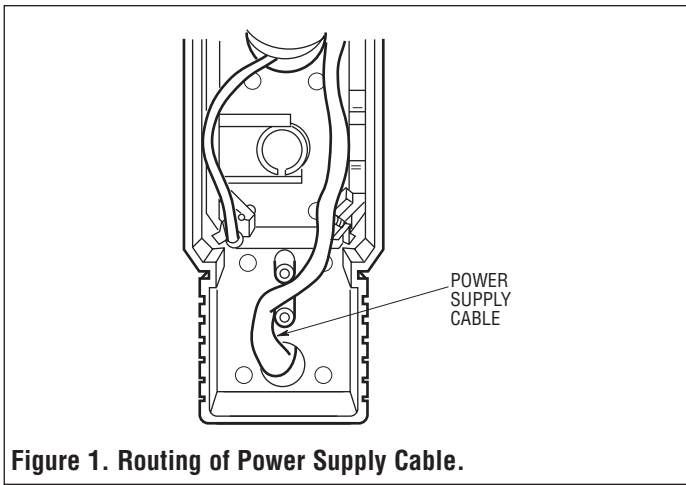

Figure 1. Routing of Power Supply Cable.
2. Remove accessory section cover by removing two (2) screws in the lower front corners.
3. Route accessory power supply cable and any control wiring to accessory mounting location providing approximately ten (10) inches (254mm) of cable for connections in accessory box. See Warning 6.
NOTE: Power supply cable(s) may enter accessory box through either of the two (2) knockouts in back or the two (2) holes in bottom portion of plastic junction boxes. A suitable cable clamp is required if a knockout is used. If the openings in the junction boxes are used, the cable must be routed as shown in Figure 1 to provide the proper strain relief system required by the National Electrical Code.